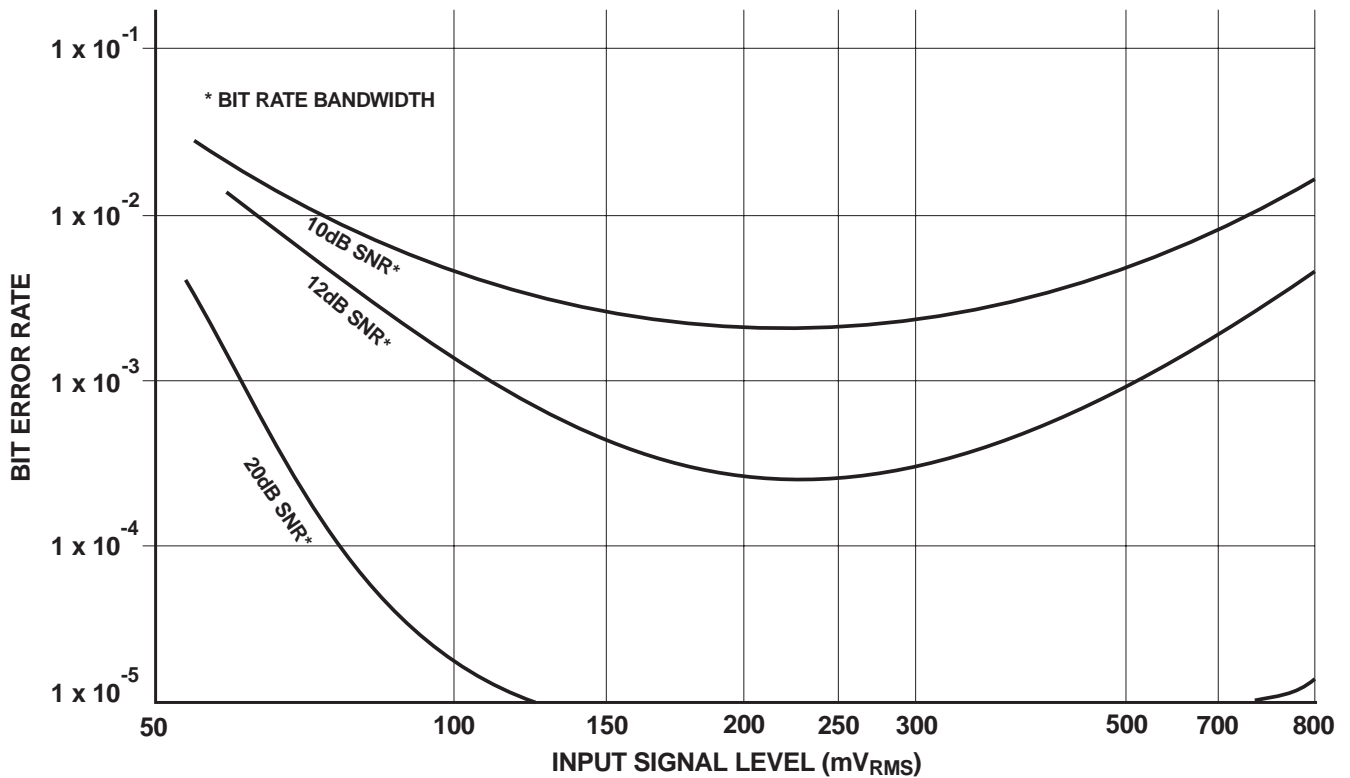

Figure 16: Typical Variation of Bit Error Rate with Input Signal Level
- See Figure 16 (variation of BER with Input Signal Level).